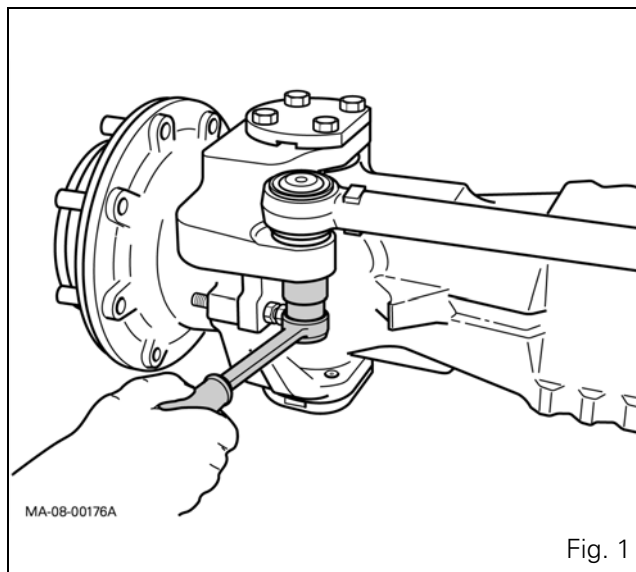

Fig. 1
5. Loosen the selector rail counter-nut by several turns until it is at the same level as the threaded stud (Fig. 1).